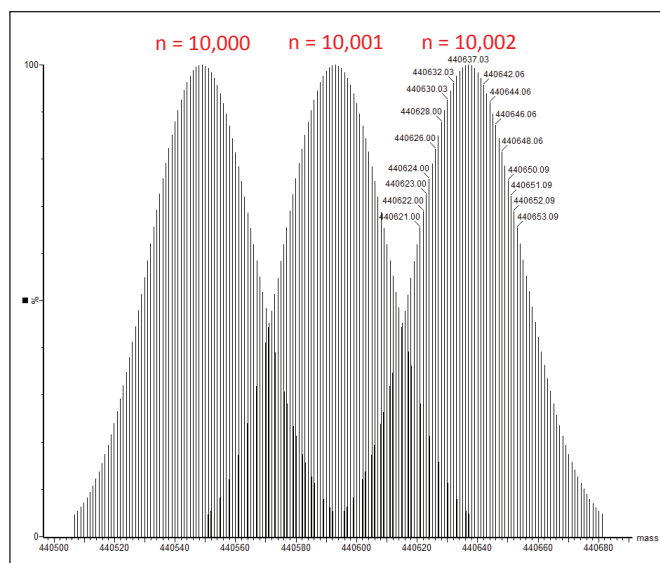

Figure 4 . Theoretical isotope model for PEG n = 10,000, 10,001, and 10,002.
- As the mass of the ions being measured increase, the isotope patterns caused by 13C begin to get more complex and eventually overlap. This is demonstrated in Figure 4, which illustrates a theoretical isotope model for PEG with n=10,000, n=10,001, and n=10,002 – these three isotope modes represent three different chain lengths. Clearly the three isotope models overlap so the mass spectrum at this mass range is very complex, especially if we bear in mind that in a real sample, there will also be fragment ions and background interference. To be able to resolve two isotopes from different molecules, a resolving power of over four million would be required.